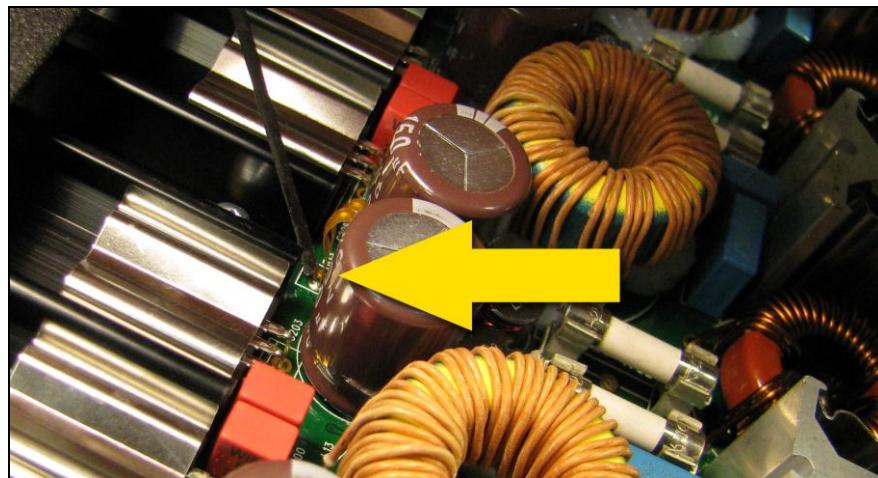
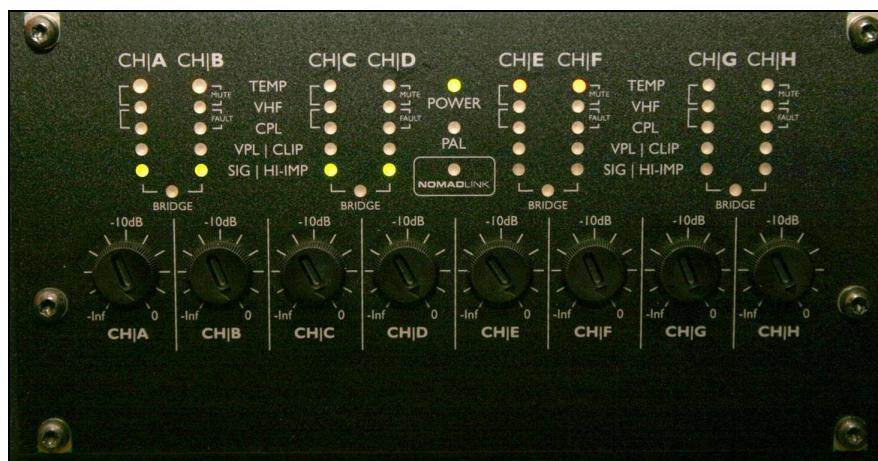

Fig. 24
Fig. 25
22.	Check channel E & F (fig. 24). At the same time look at the led's on front panel (fig. 25).